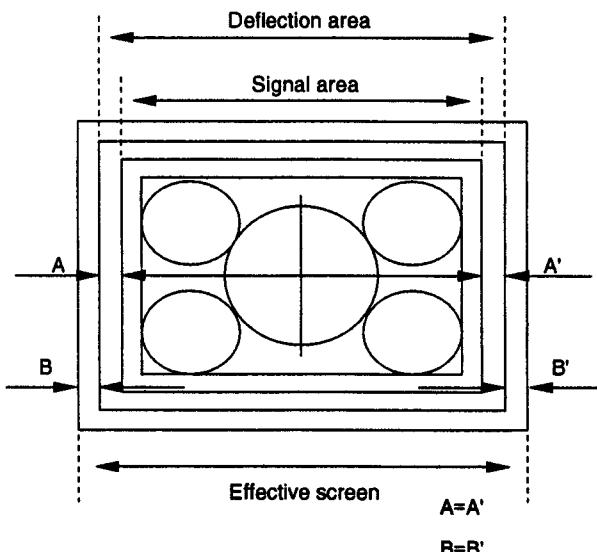

Fig.5-4
7. Adjust **[50 VIDEO PHASE]** so that the signal area will be in the center ($A = A'$) of the deflection area. (Fig.5-4)